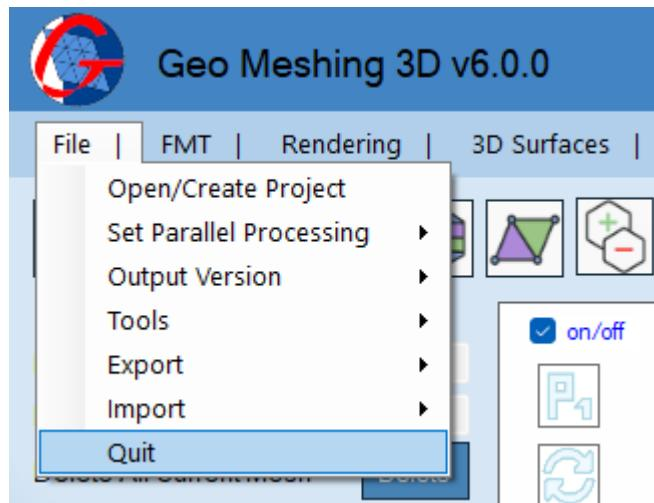

Figure 22: File Menu – Quit.
- **File Menu, Quit:** Exits from *Geo Meshing v6* (shown in Figure 22).